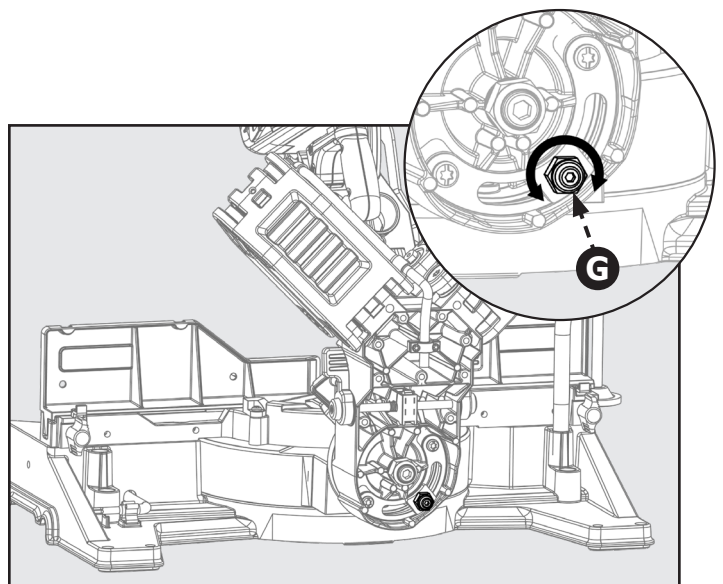

Figure 35
Refer to Figure 35 and follow these instructions in order to adjust the bevel lock tension: tighten/loosen the M10 nut (G) located on the backside of the saw. Make sure to lift the bevel lock/unlock handle into the unlocked position before adjusting the M10 nut. Do not overtighten.